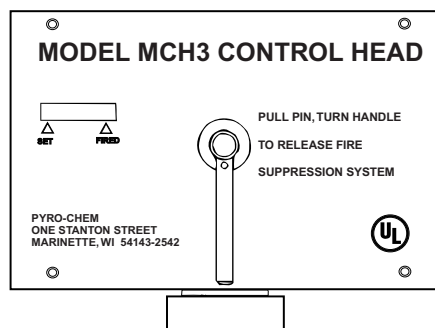

Figure 2-5. Mechanical Control Head.
The Model MCH3 mechanical control head is a fully mechanical control head which can be connected to the PCI-15/17/25s/35/70 cylinder valve. This control head will support a fusible link detection system, a remote mechanical pull station (Model RPS-M), and a mechanical or electric gas shut-off valve. A micro switch (Model MS-SPDT, MS-DPDT, MS-3PDT, or MS-4PDT) can be ordered separately and field installed. It is equipped with a local manual control handle that allows for mechanical system actuation. Operation of the local manual control requires removing the pull pin and rotating the handle clockwise. The Model MCH3 control head can actuate a maximum of five (5) cylinders. See **Figure 2-5**.
See **Figure 2-5**.